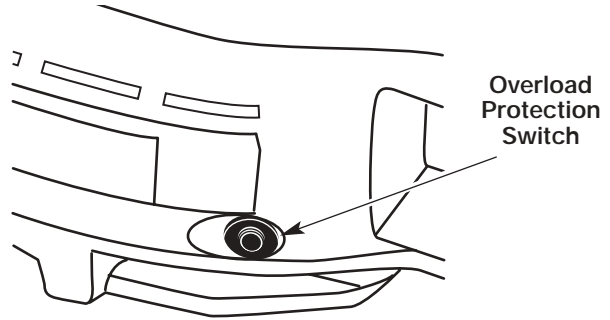

Fig. 7
2. Press the overload switch to reset. Resume operation (Fig. 7).